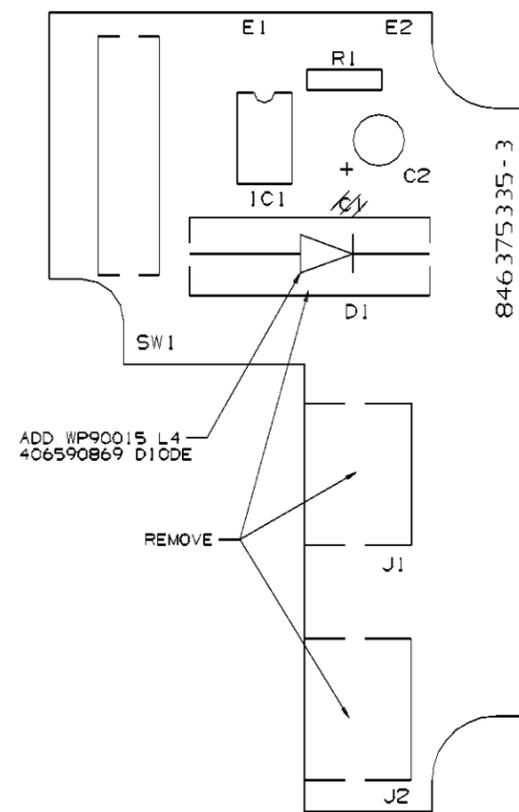

FIG. 2
- A. RMV MOD PHONE JACKS J1 AND J2, SHOWN IN FIG 2.
- B. RMV C1 CAP, SHOWN IN FIG 2.
- C. ADD WP90015 L4 DIODE TO POINTS WHERE C1 WAS CONNECTED, AS SHOWN IN FIG 2.
- G. IN FIG 2 MARK OUT C1 AND ADD D1 STAMPING.